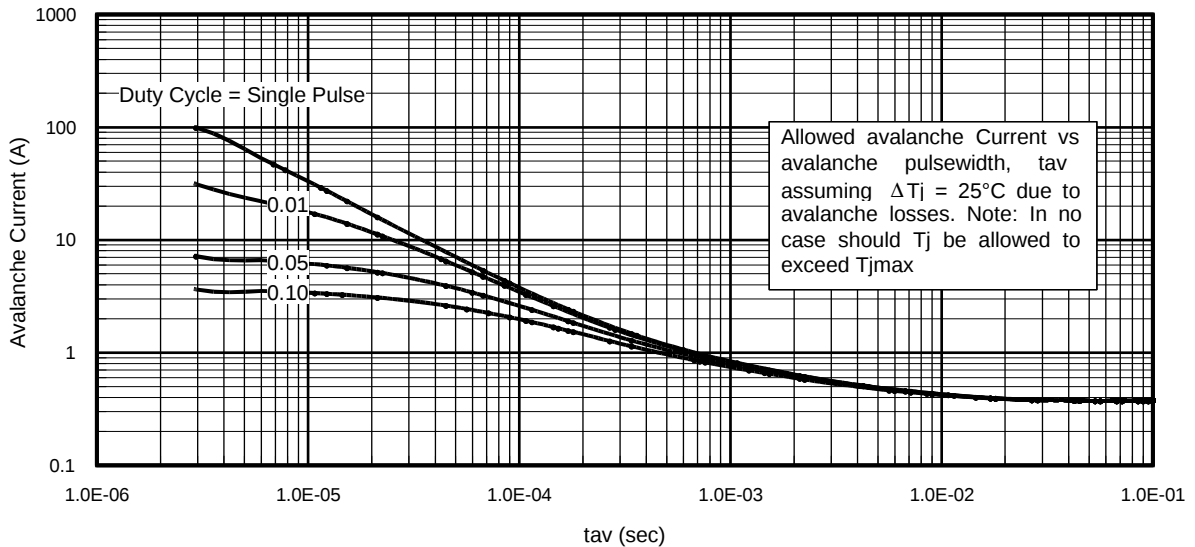

Fig 15. Typical Avalanche Current Vs. Pulsewidth
Notes on Repetitive Avalanche Curves , Figures 15, 16:
7.  $\Delta T$  = Allowable rise in junction temperature, not to exceed  $T_{jmax}$  (assumed as 25°C in Figure 15, 16).